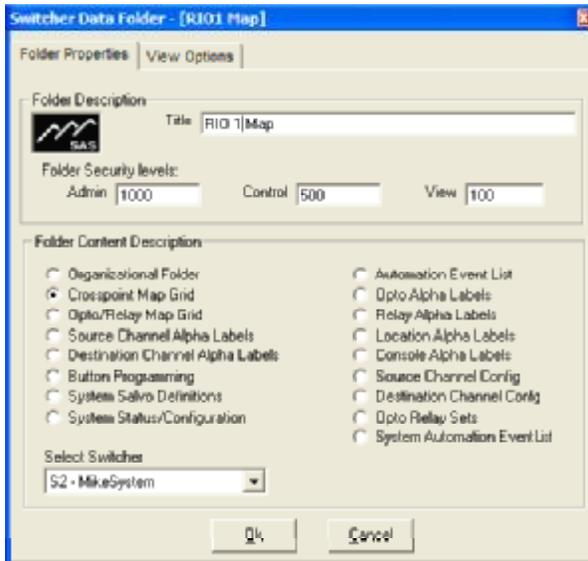
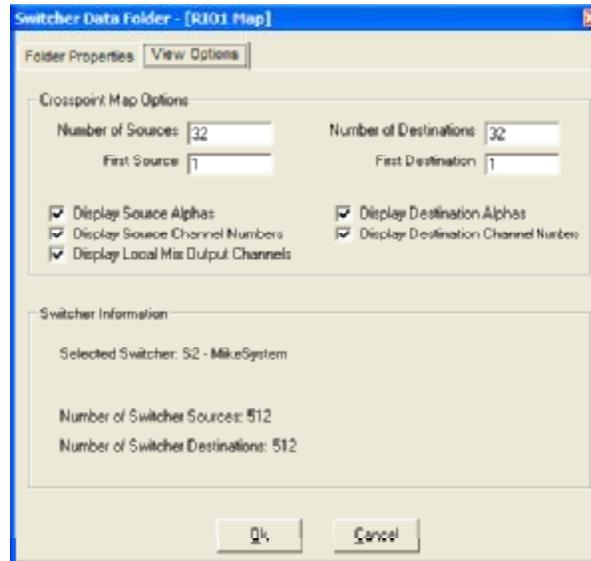

Figure 4. RIO 1 Crosspoint Map
Figure 5. Adding Local mix Output channels (DSP loopback sources) to the map.
Several required crosspoints, will not show up on the *Full Map*. You will need to make a new Crosspoint map that includes the internal DSP “loopbacks” of your system's busses. This is fairly simple - you can either use the existing Partial Map folder and change its attributes, or just right-click on the *Crosspoint Maps* folder and select *New Folder*. Whichever route you take, right click on the *New Node* or *Partial Map* folder and click on rename. Give it a name like “RIO 1 Map.” Next right-click on it and select *Folder Properties* (Figure 4). Click *Crosspoint Map Grid*, and make sure your Switcher entry shows up in the drop-down *Select Switcher* box. Change the title near the top to the same name you used for the folder. Now click on the View Options tab at the top of the Switcher Data Folder window (Figure 5). Set number of sources to 32, number of destinations to 32, first source to the first source number on your RIO (1 in our example) and first destination to the first destination number on your RIO (again 1 in this example). All check boxes should be checked before clicking OK. Create a new folder for EACH RIO in your system and configure it the same way, so that you have a crosspoint folder for each of your RIOs which shows normal sources and destinations PLUS virtual copies (DSP loopback sources) of your RIOs destinations (this is how a PGM bus gets routed to another destination without having to physically wire it back into the system).
The 32KD architecture makes a virtual source (aka a DSP loopback source) of every system **OUTPUT**. These virtual sources are identified by numbers just like real sources are; and though they can be assigned just about any range of numbers, we always make the (virtual) source number of a destination the same as the destination number to keep confusion to a minimum. So in the case illustrated in Figure 5 below, A PGM 1, SOURCE 129 is a virtual source, or DSP Loopback of the real Program Bus OUTPUT that is developed on outputs 129/130. This mechanism allows us to crosspoint whatever is on a system OUTPUT (destination) to other destinations in the system.
**IMPORTANT NOTE:** RIO DSP Loopback sources do not have source numbers, and are only available as sources inside the RIO. The Local Mix Output option in figure 5 above adds the DSP Loopback sources to the RIO crosspoint map (see figure 7 on the next page).